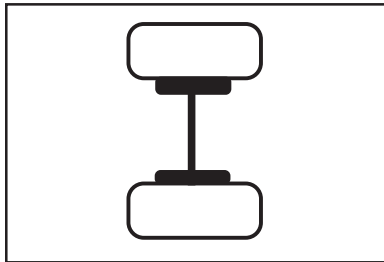

Figure 78.
- Redesign the fabrication to make the design symmetrical. This will enable the forces to balance each other and prevent distortion (figure 78).